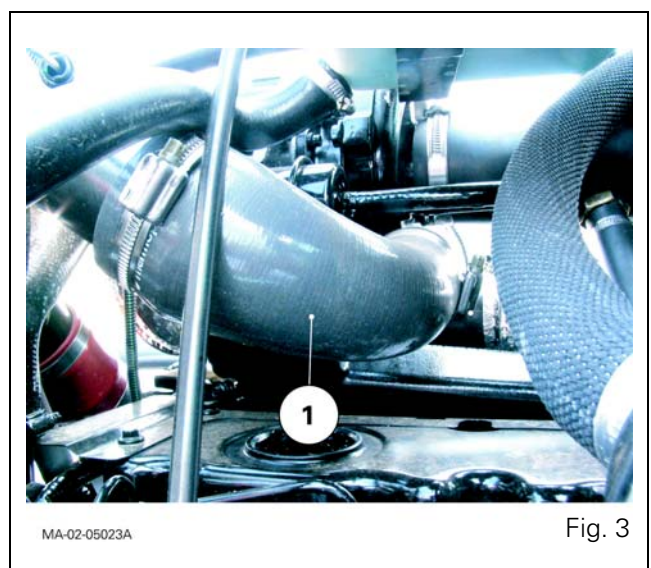

Fig. 3
9. Disconnect the air sleeve (1) (turbo outlet) from the cooling sleeve (Fig. 3).